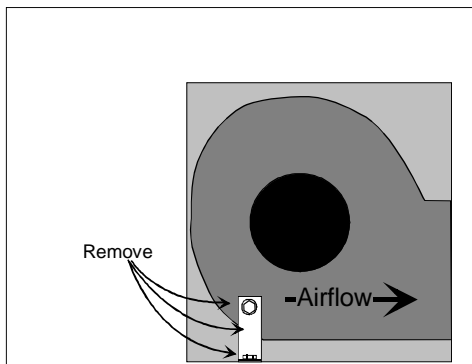

Figure 5
3. Remove the clamp securing the blower assembly to the bottom of the unit. The clamp and screws may be discarded (Figure 5).